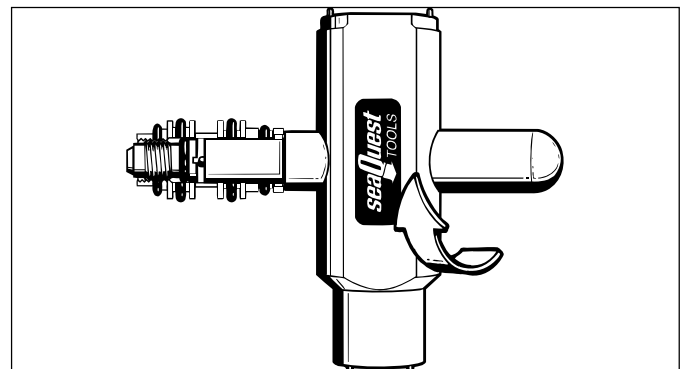

Figure 23
1.3.30 Apply the crown adjustment feature of the T-Tool to turn the crown in clockwise as far as the tool will allow, and then turn the crown back counter-clockwise exactly ½ turn to arrive at the correct preliminary setting (see Fig. 23).